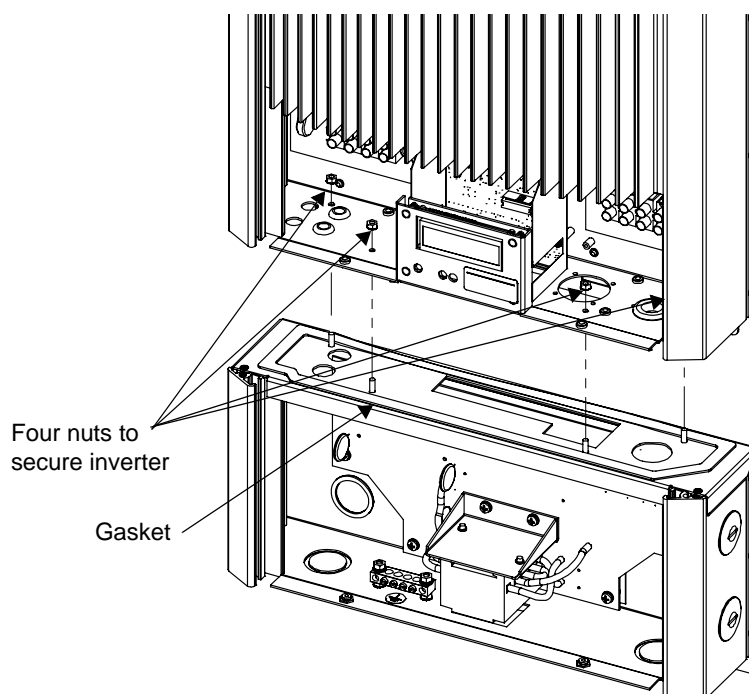

Figure 6-3 Wiring/Disconnect Box and Removable Inverter
5. Inside the inverter, remove the four nuts attaching the wiring box to the inverter. See Figure 6-3.